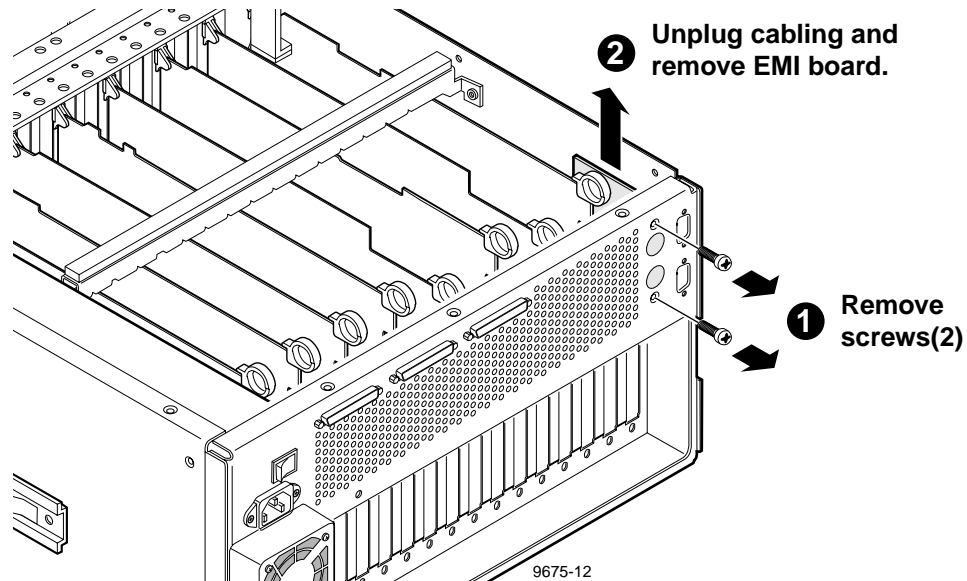

Figure 6-25. Removal of the Mouse/Keyboard EMI Board
5. Use the Torx tool with the T10 tip to remove the screws which secure board to the rear panel (1 in Figure 6-25) and lift the board up and out of the chassis.
6. Disconnect the cable to the Mouse/Keyboard EMI board (2 in Figure 6-25).
2. Align the screw holes and use the Torx tool with the T10 tip to secure the board to the Profile chassis with the screws previously removed (Figure 6-25).